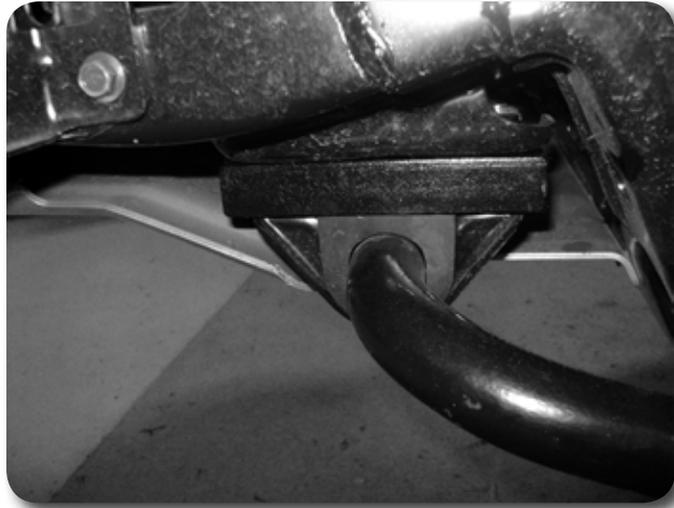

Figure 14
21. Place the sway bar drop spacers between the sway bar and frame **Figure 14**. Attach with new 12mm x 50mm hardware. Tighten to 55 ft-lbs.